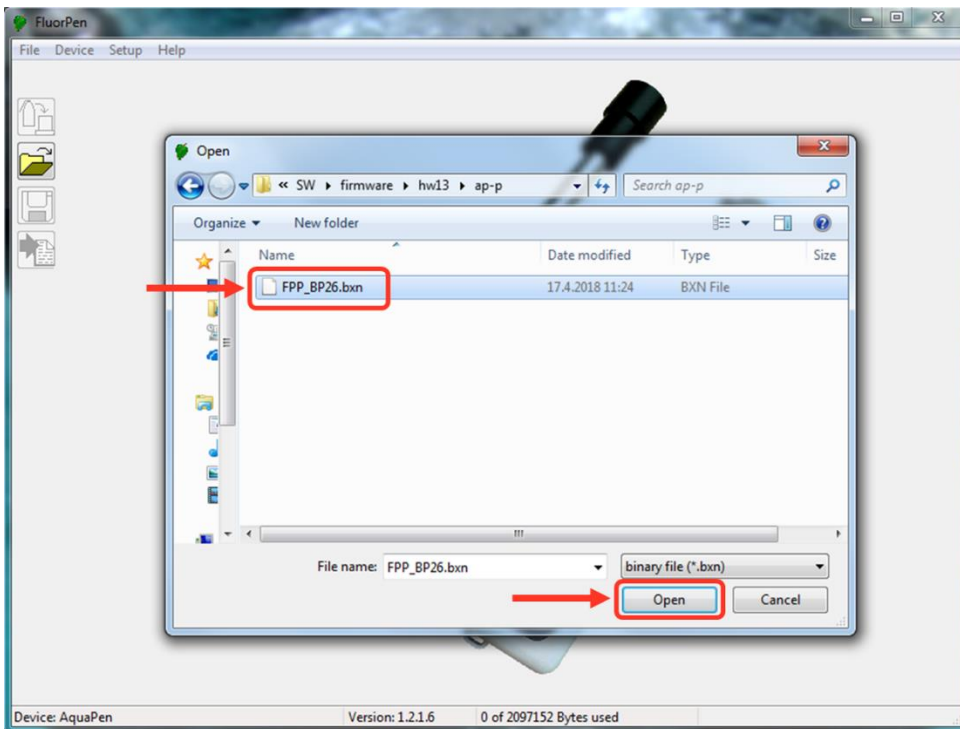

Fig. 31 Select .bxn file.
- Find: firmware update file: Binary file (with the extension .bxn) (Fig. 31).